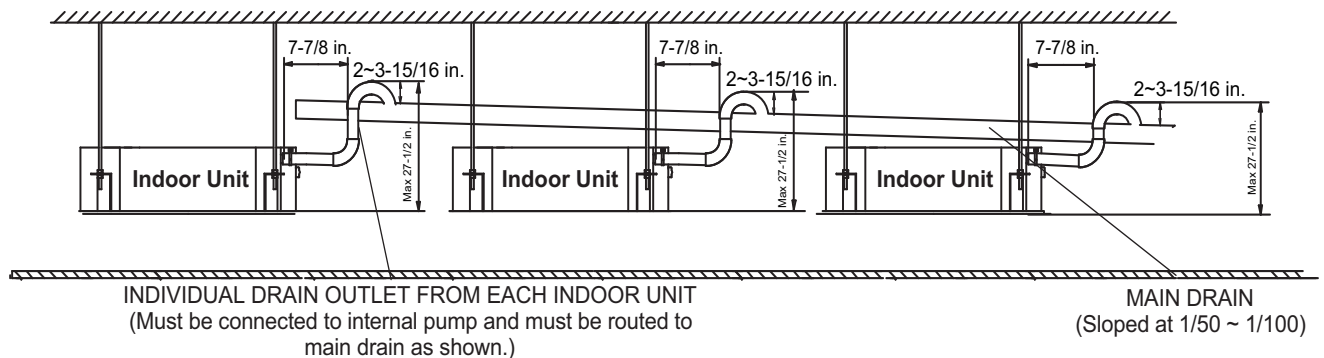

Fig. 21 — Using a Main Drain to Serve Multiple Indoor Units with Internal Condensate Pumps
- Condensate piping should slope downward in the direction of condensate flow with a minimum gradient of 1 inch per 100 inches. See Fig. 21.